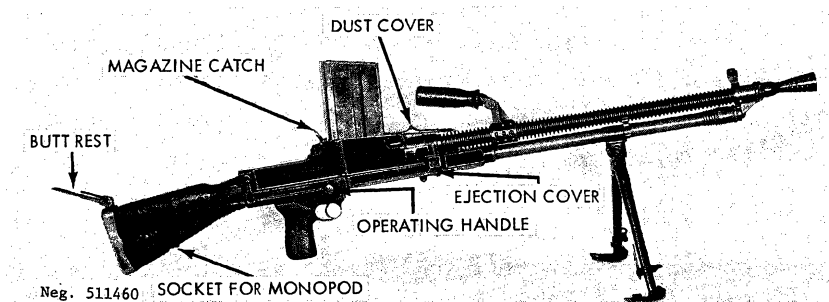
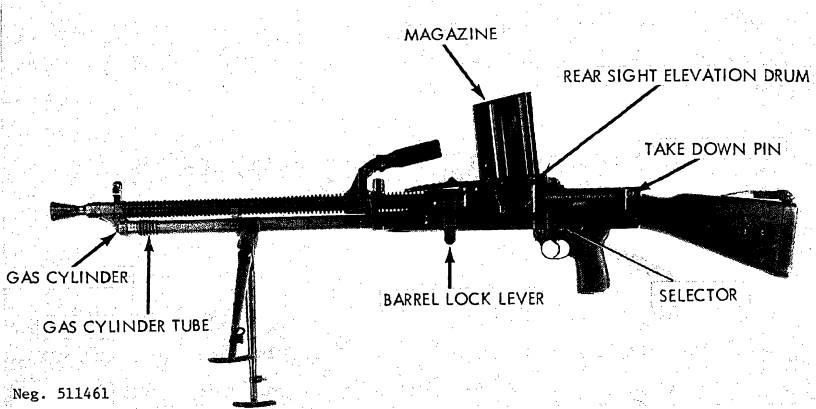

Figure 161. ZB 30 light machinegun.
Figure 162. ZB 26 light machinegun.
a. The Czechoslovak-designed and -produced ZB26 and ZB30 machineguns were among the first modern light automatic guns. The two guns are almost identical externally; the ZB30 (fig 161), however, has a socket in the bottom of its butt to receive a
monopod; the ZB26 (fig 162) does not have such a fitting. Internally the basic design is similar but there are major differences in the shape of the breech bolt and piston slide, and these parts are not interchangeable between models. These air-cooled, box magazine-fed, bipod-mounted guns have many clever design features; some are retained in the design of the later
b. Swing the bipod legs forward until they spring apart and lock into place. They can be folded by pressing the legs together and swinging them rearward. The butt rest (fig 161) can be folded or unfolded by pulling it away from its hinge and rotating it to the desired position. This rest can be used to support the gun on the gunner's shoulder while he is firing from the prone position.
c. Slide the dust cover forward, if necessary. Tilt the magazine forward and engage its front lug with the recess in the front of the magazine opening. Rock the magazine back until the magazine catch (fig 161) snaps into place.
d. Rotate the selector (fig 162) to its middle (safe) position. Grasp the operating handle (fig 161), pull it fully rearward, and then return it forward.
e. Turn the elevation drum (fig 162) until the desired range (in hundreds of meters) appears in the opening at the rear of the drum.
f. Rotate the selector (fig 162) forward for automatic fire or rearward for semiautomatic fire. Use a normal sight picture, aim, and press the trigger to fire. The bolt will be caught to the rear when the magazine is empty.
g. Remove the magazine by pressing the magazine catch (fig 161) toward the magazine; at the same time press the magazine forward and rotate it out of the gun. Reload as described in paragraph c above. The gun does not have to be recocked after reloading, because the follower of the empty magazine held the bolt open.
h. The ZB26 and ZB30 machineguns have quick-change barrels. Remove the magazine; press the latch on the inside of the barrel lock lever (fig 162) into the lever to release the lever from the receiver. Rotate the lever up as far as possible, and by means of the carrying handle, pull the barrel forward off the gun. Insert a replacement barrel; insure that the gas cylinder enters the gas cylinder tube (fig 162). Turn the barrel lock lever down until it locks in place; reload and resume fire. The barrel can be changed with the bolt rearward or forward.
i. Clear the gun; set the selector to its middle (safe) position; remove the magazine, and then pull the operating handle rearward. Look through the magazine opening to insure that no cartridges are present. Move the selector from safe, grasp the operating handle, press the trigger, and ease the operating handle forward. Slide the magazine opening dust cover (fig 161) rearward; then slide the ejection cover (fig 161) rearward. Set the selector back to its middle (safe) position.
b. Press out the takedown pin (fig 162) from left to right and slide the butt and trigger mechanism rearward out of the receiver.
e. By rotating the selector (fig 162), the ZB26 or ZB30 trigger mechanism can be set for either semi- or full automatic fire. When the selector is rotated forward to the full automatic setting, a solid section on its shaft depresses the connector, which fits through a hole in the lower arm of the sear. As the trigger is pressed, the connector moves forward; the lower hook (fig 164) engages the sear and causes it to rotate about the pin. The sear nose releases the slide, the firing cycle commences and continues until the trigger is released and the sear spring forces the sear up to intercept the slide.